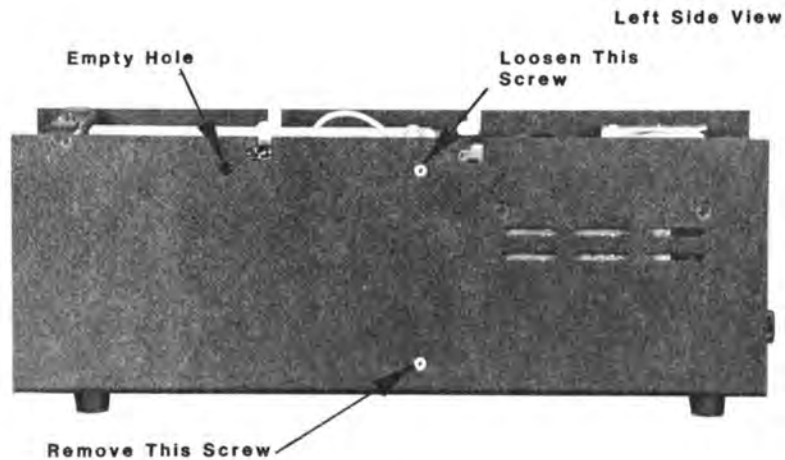

Fig. 5-2
B. Locate the two (2) standoff screws holding the Reproduce PCB to the Left side of the chassis. Loosen the UPPER screw and remove the LOWER screw, retaining the LOWER screw for use in Step C. Figure 5-2.